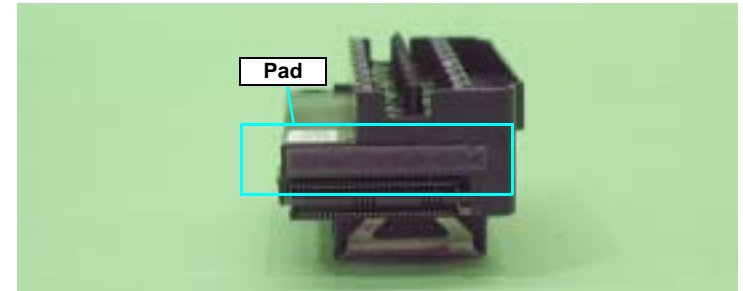

Figure 4-35. Attaching the Pad
- Make sure that the Pad is attached at the position in Figure 4-35..